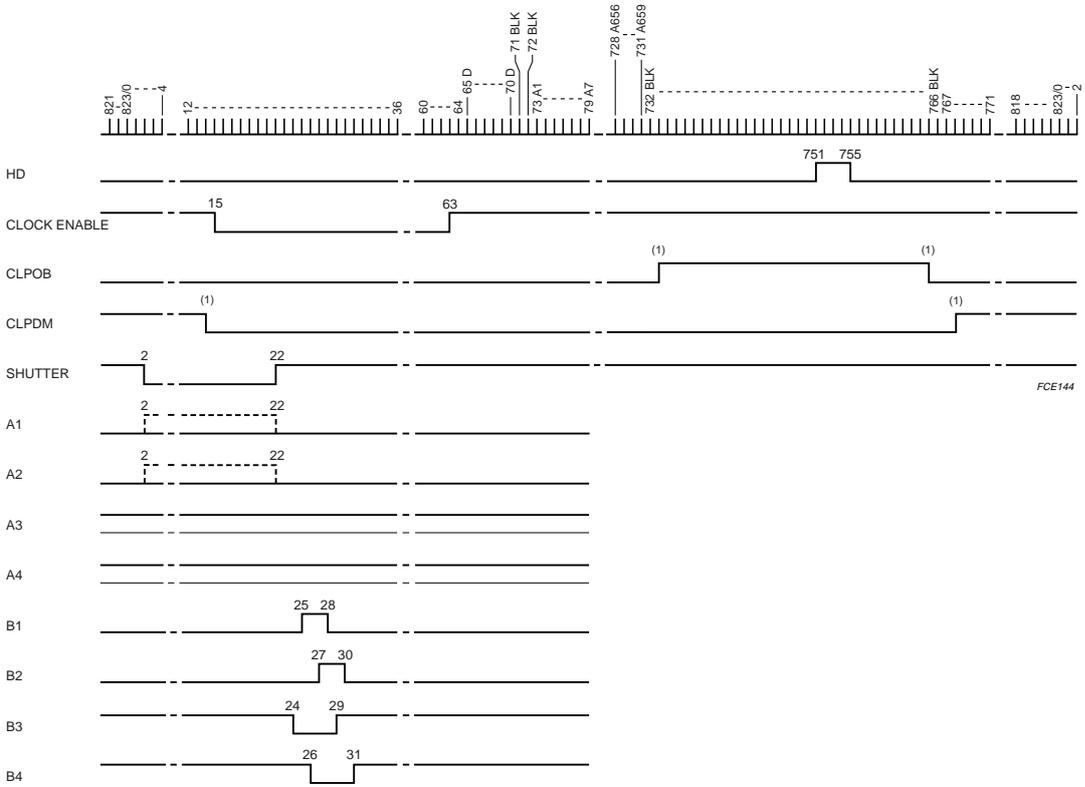

Fig.15 Horizontal pulses for VGA sensors.
- Horizontal pulses, see Fig.15